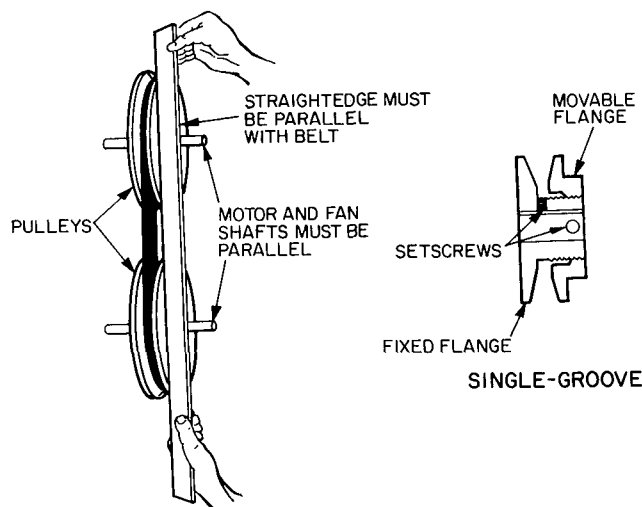

Fig. 23 — Evaporator-Fan Pulley Adjustment
3. Loosen movable pulley flange setscrew (see Fig. 23).